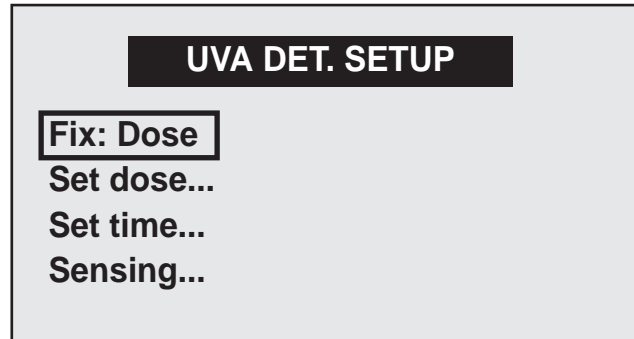

Figure 4 DCS Setup Mode
- 5] Press the DCS key F2. The detector setup menu will appear as in Figure 4.